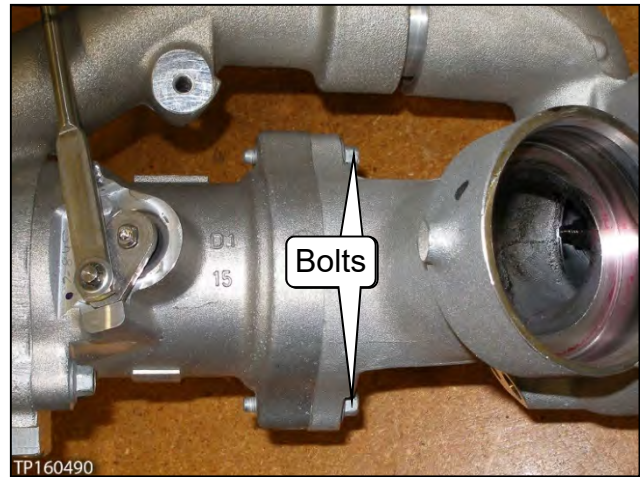
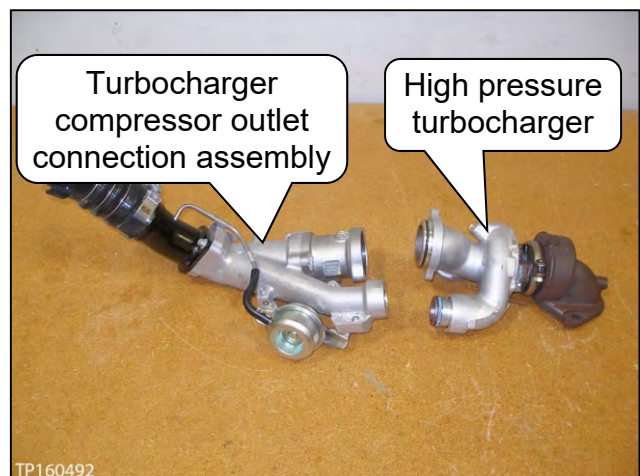

Figure 58
Figure 59
44. Remove the bolts, and then separate the high pressure turbocharger from the turbocharger compressor outlet connection assembly (see Figure 58 and Figure 59).